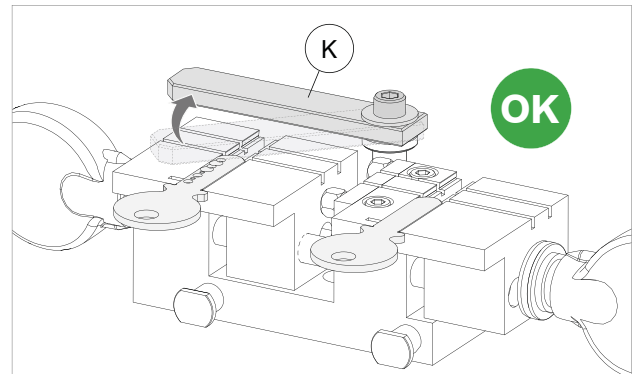
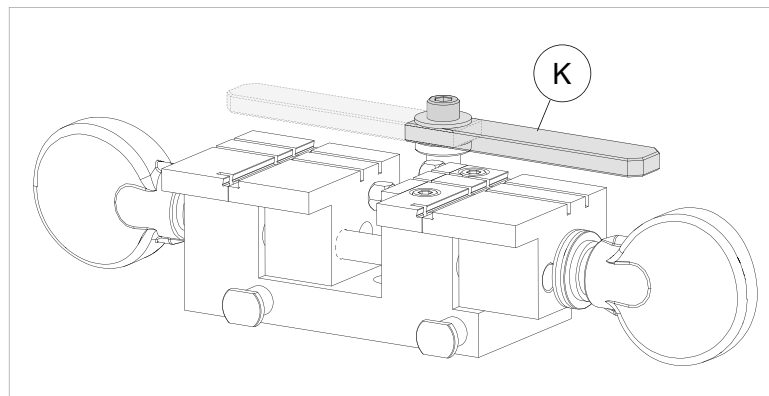

Fig. 19
Fig. 20 - idle positions
- d) check that the tubular key alignment bar (K) is in the idle position (Fig. 19 and Fig. 20).